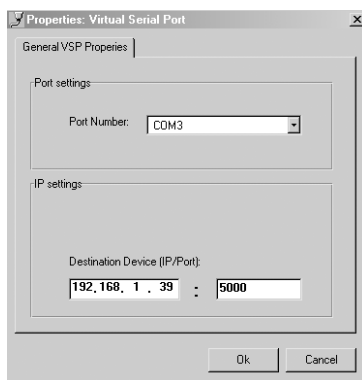

Figure 11: The Virtual Serial Port Properties Window
3. Press the **Add VSP** button to add a serial port and type the IP settings according to the IP address and local port of your **VS-311HDMI** (see Figure 11).